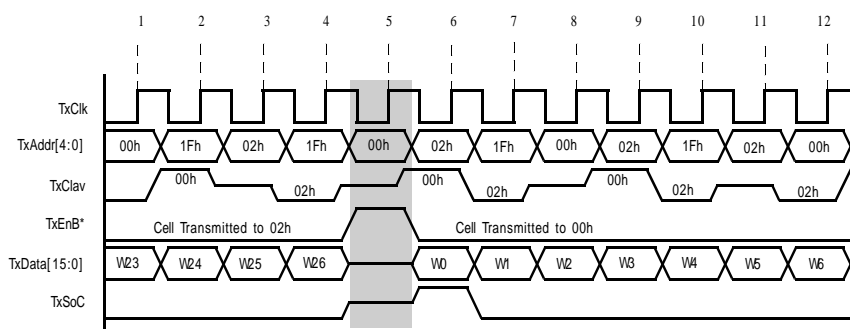

Figure 27. Timing Diagram of the Transmit Utopia Data and Address Bus signals, during the ‘Multi- PHY’ UNI Device Selection and Write Operations.
Figure 27 presents a timing diagram that illustrates the behavior of various “Transmit Utopia Interface block” signals; during the “Multi- PHY” UNI Device Selection and Write operation.
Notes regarding Figure 27:
2. The Transmit Utopia Interface Block is configured to handle 54 bytes/ cell. Hence, Figure 27 illustrates the ATM Layer processor writing 27 words (e.g., V0 through V26) for each ATM cell.
In Figure 27, the ATM Layer processor is initially writing ATM cell data to the Transmit Utopia Interface block within UNI #2 (TxAddr[4:0] = 02h). However, the ATM Layer processor is also polling the Transmit Utopia Interface block within UNI #1 (TxAddr[4:0] = 00h) and some “non- existent” device at TxAddr[4:0] = 1Fh. The ATM Layer processor completes its writing of the cell to UNI #1 at clock edge #4. Afterwards, the ATM Layer processor will cease to write any more cell data to UNI #1, and will begin to write this data into UNI #2 (TxAddr[4:0] = 02h). The ATM Layer processor will indicate its intentions to select a new UNI device for writing by negating the TxEnB* signal, at clock edge #5 (see the shaded portion of Figure 27). At this time, UNI #1 will notice two things: